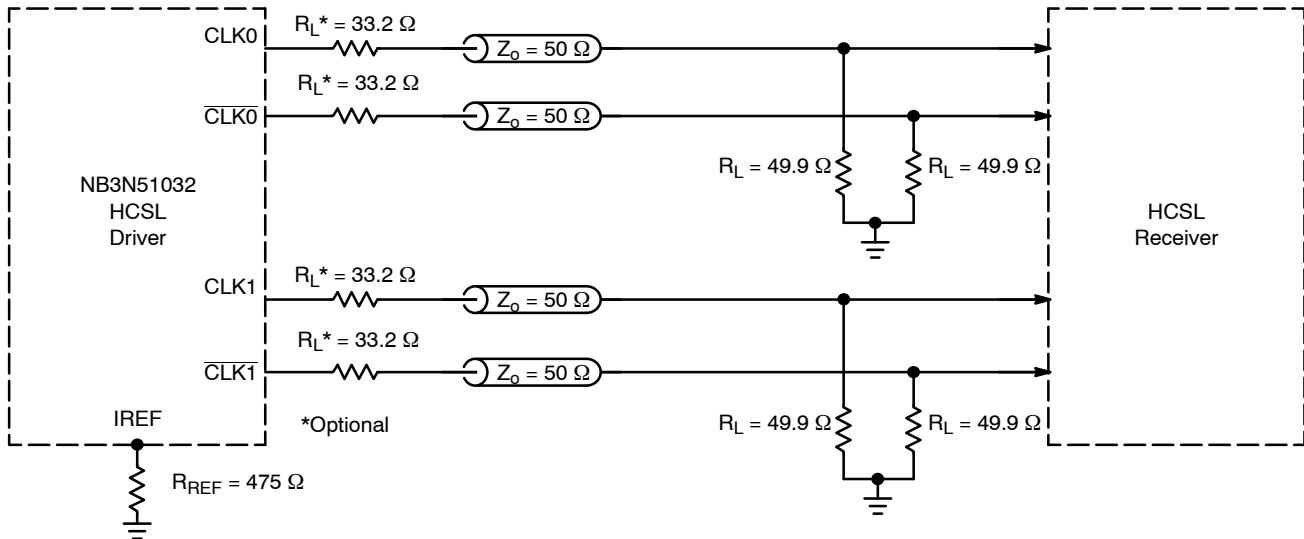
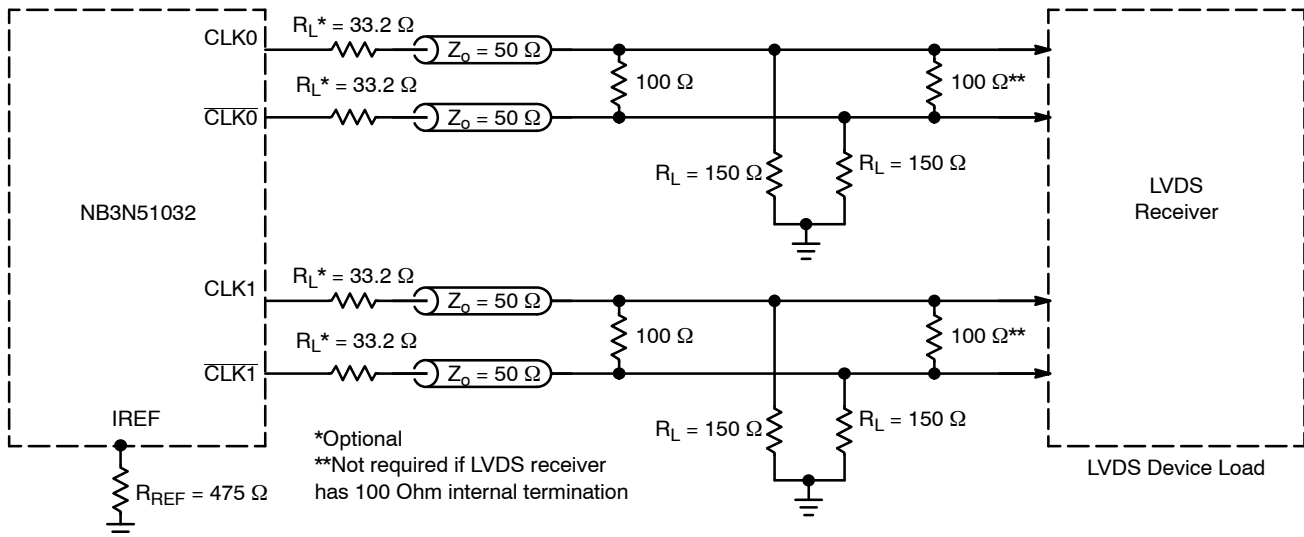

Figure 9. Typical Termination for Output Driver and Device Evaluation
Figure 10. Typical Termination for LVDS Device Load
- VDDXD and VDDODA power pins must be shorted to power supply voltage VDD and GNDXD and GNDODA ground pins must be shorted to power supply ground GND. Measurement taken with outputs terminated with RS = 33.2 Ω, RL = 49.9 Ω, with test load capacitance of 2 pF and current biasing resistor set at 475 Ω. See Figure 9. Guaranteed by characterization.
9. VDDXD and VDDODA power pins must be shorted to power supply voltage  $V_{DD}$  and GNDXD and GNDODA ground pins must be shorted to power supply ground GND. Measurement taken from differential output on single-ended channel terminated with  $R_S = 33.2 \Omega$ ,  $R_L = 49.9 \Omega$ , with test load capacitance of 2 pF and current biasing resistor set at 475  $\Omega$ . See Figure 9. Guaranteed by characterization.
The outputs can be terminated to drive HCSL receiver (see Figure 9) or LVDS receiver (see Figure 10). HCSL output interface requires  $49.9\ \Omega$  termination resistors to GND for generating the output levels. LVDS output